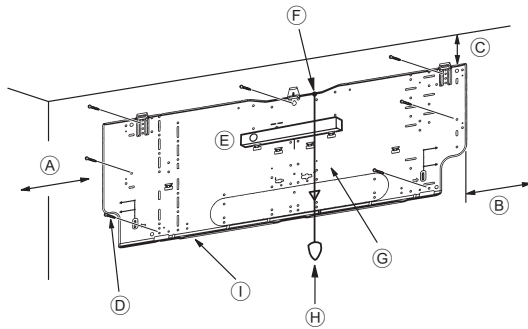
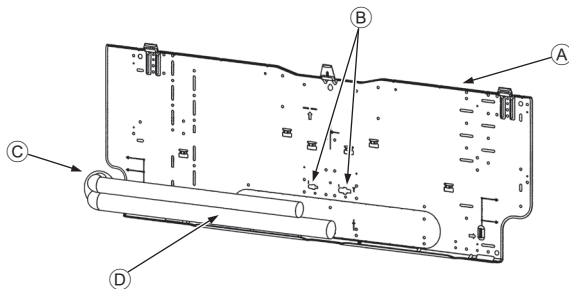

Fig. 3-4
Fig. 3-5
■ PKA-M60, 71, 100KA(L) (Fig. 3-4)
- Ⓓ Fixing screws (4 × 25) ②
- Ⓘ Mount board ①
3.3. When embedding pipes into the wall (Fig. 3-5)
- Ⓐ Mount board ①